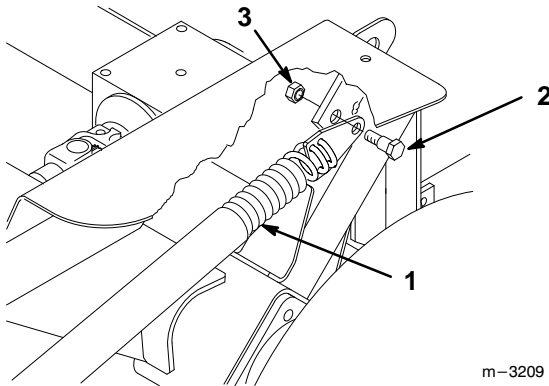

Figure 8
6. Remove 3/8" x 7/8" (23 mm) shoulder bolts and 3/8" locknuts securing spring end plate assemblies to carrier frame (Fig. 8).